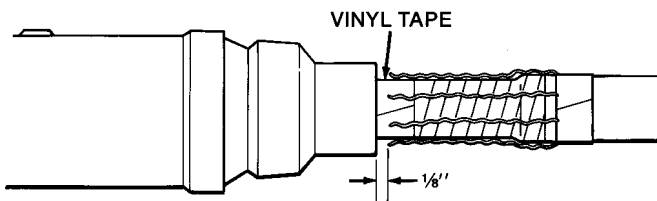
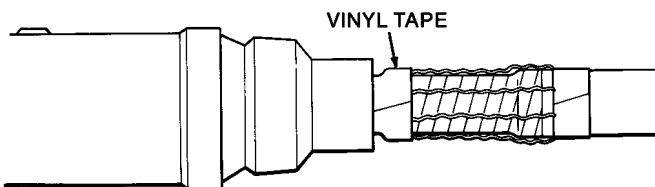

Figure 6
Figure 7
2. Lay ground wires down over #13 Tape and trim lengths approximately 1/8 inch short of splice. Figure 6. Secure wire ends in place over vinyl tape with an additional two layer tape band. Figure 7. Repeat for both ends.